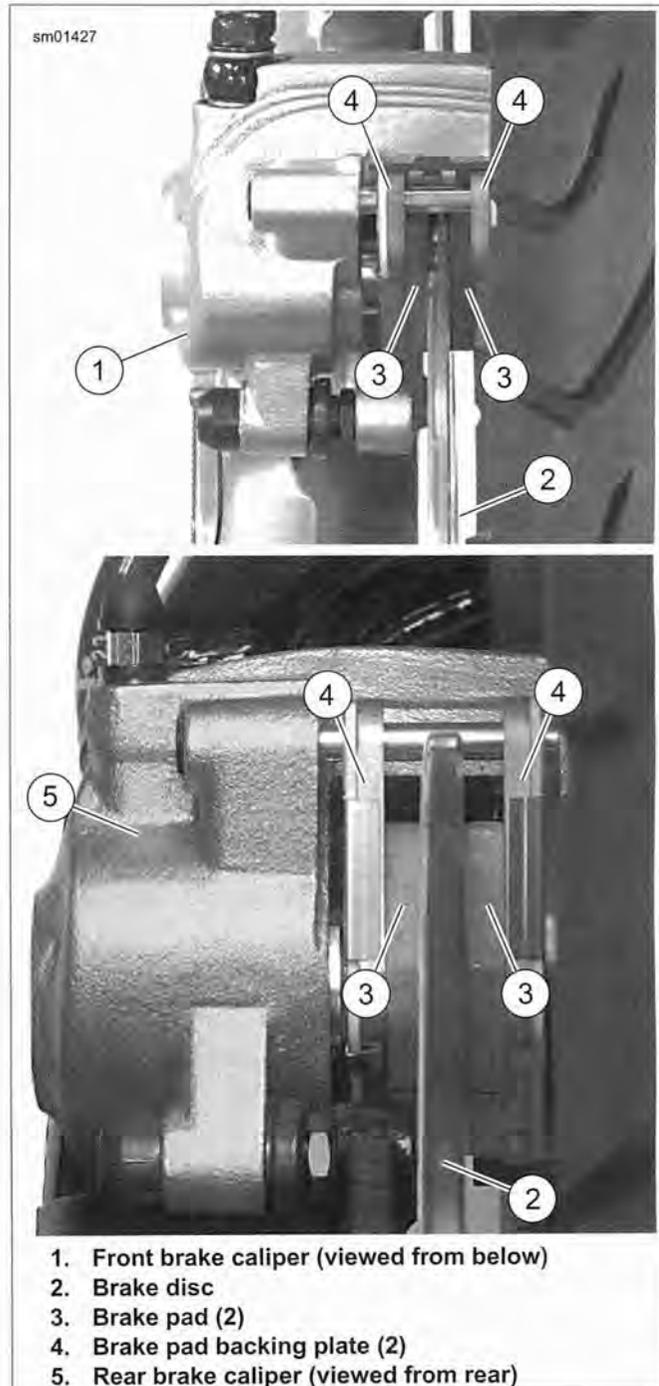

Figure 1-13. Brake Pad Inspection
See Figure 1-13. Replace brake pads (3) if brake pad friction material on either the front or rear caliper is worn to 0.04 in (1.02 mm) or less above the backing plate (4). Always replace both pads in a caliper as a set. See 1.8 BRAKE PADS AND DISCS: XL MODELS, Brake Pad Replacement: Front or 1.8 BRAKE PADS AND DISCS: XL MODELS, Brake Pad Replacement: Rear.